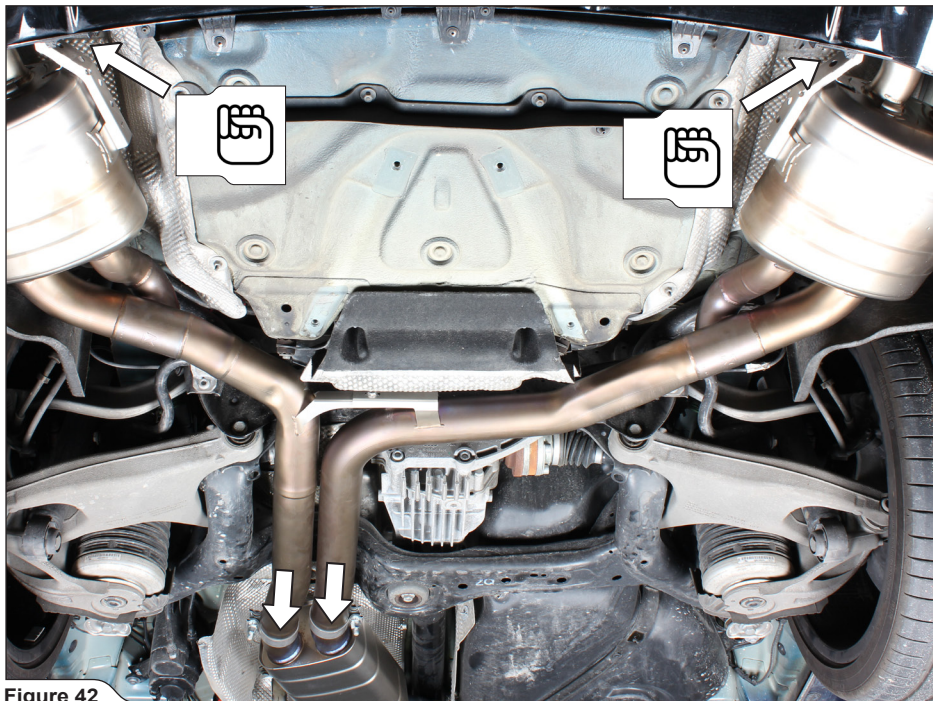

Figure 42
10. Slide the mufflers simultaneously onto the collector and hand tighten the stock rubber brackets onto the chassis (Figure 42).